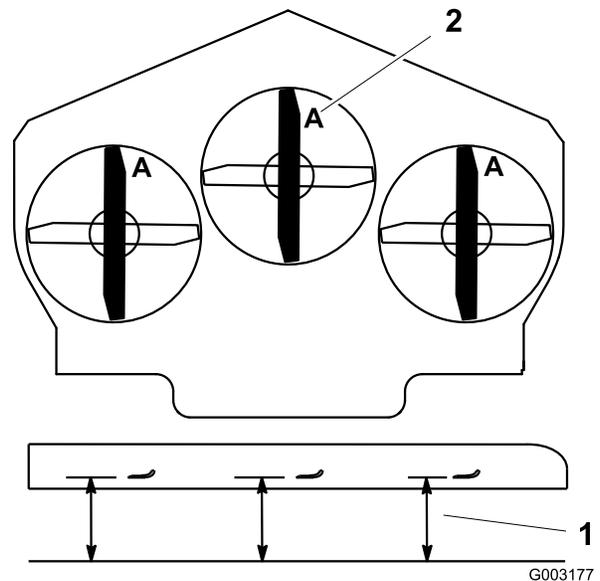

Figure 109
4. Measure from a level surface to the cutting edge, position A, of the blades (Figure 109).